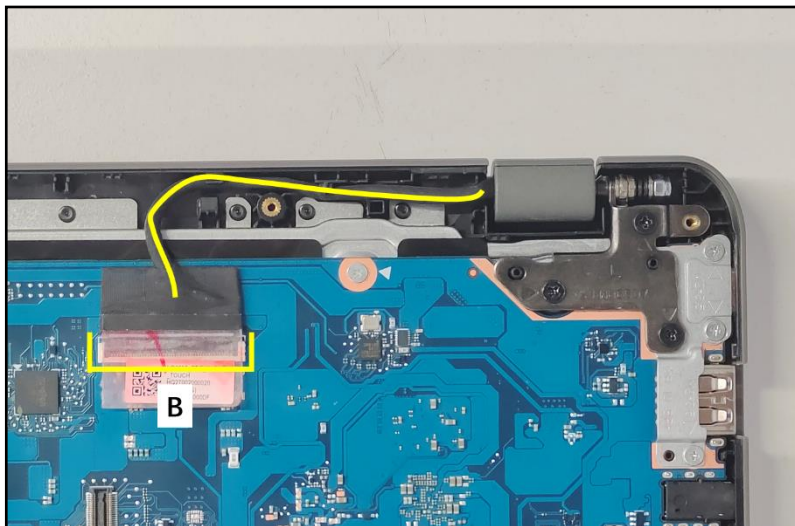

Figure 3-94. Replacing the LCD Module
4. Route and secure the eDP cable along the cable guides on the top assembly. Then connect the eDP cable to the mainboard connector (B) (Figure 3-94).